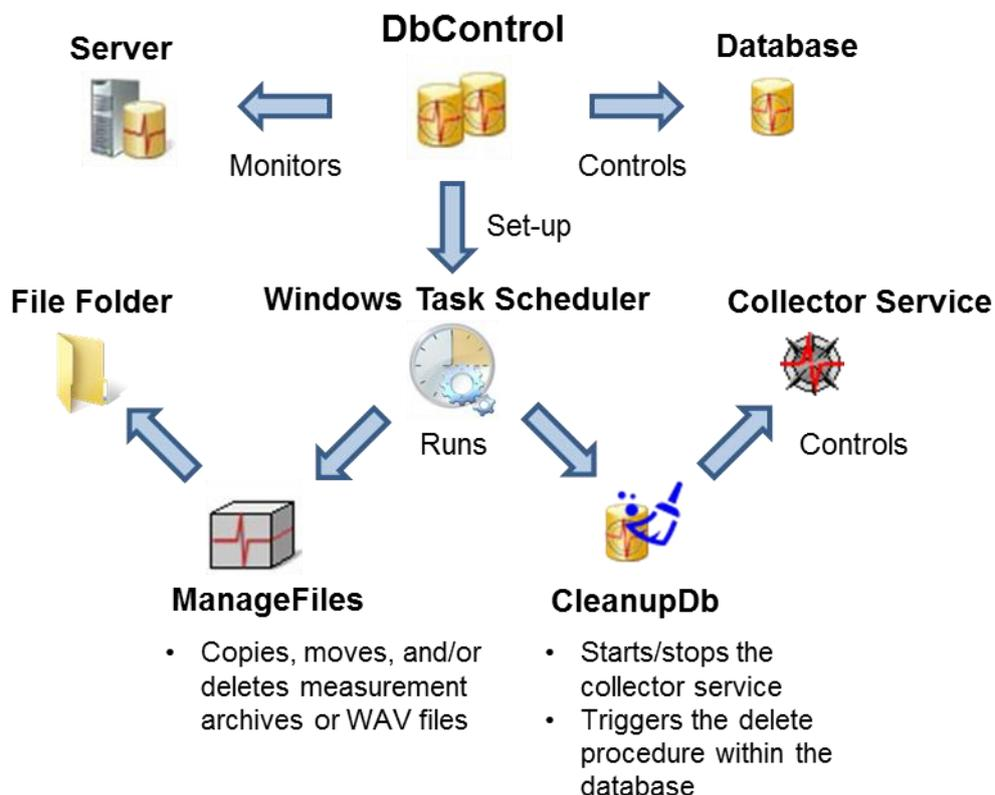
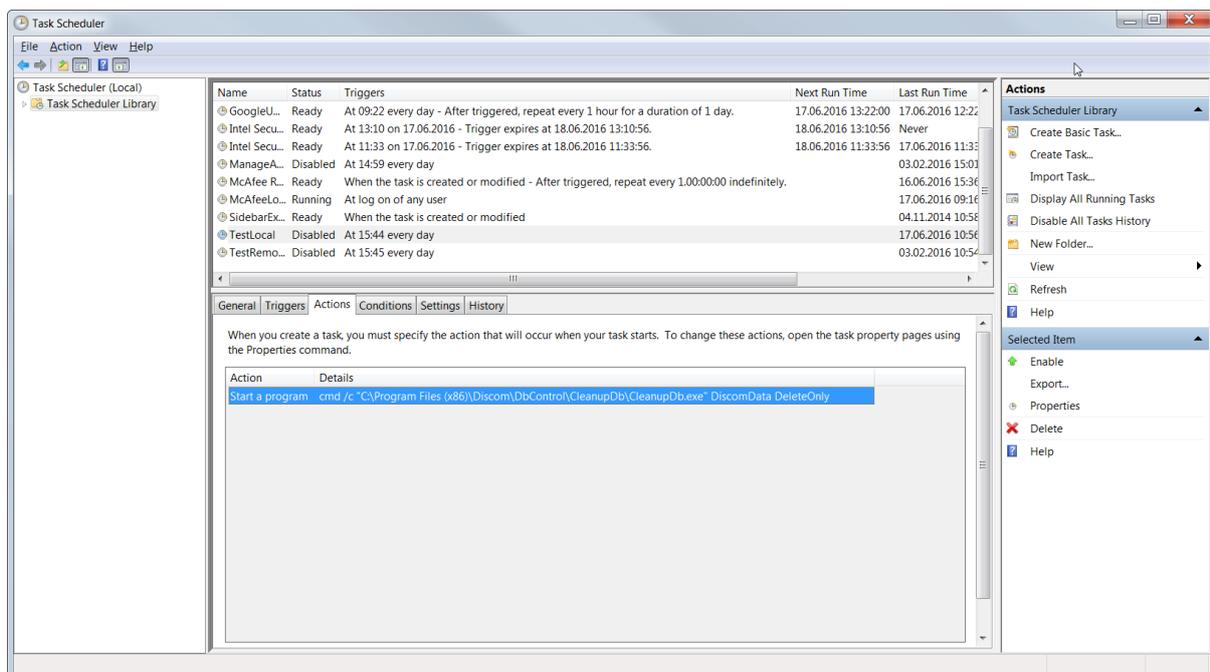

Fig. 39: Schematic program layout. The database cleanup and the management of DISCOM measurement files are carried out using the Windows Task Scheduler.
Fig. 42: CleanupDb task. Additional argument “DeleteOnly” triggers only the delete procedure within the database.
As mentioned in the previous section, the deletion of measurements from the database using the stepwise procedure can be carried out on a regular scheduled using the Windows Task Scheduler. DbControl provides the functionality to set up these Windows Scheduler tasks, not only for the regular database cleanup but also for the management of DISCOM measurement files (Fig. 39).
**Note:** In case the task to be created is a “CleanupDb” task then the triggered run of the background program “CleanupDb” includes three steps (compare Fig. 39): Stopping the collector service, triggering the deletion procedure within the database, and starting the collector service. If the stopping/starting of the collector service should be excluded for some reason (e.g. cluster collector), then either remove the respective collector service entry from the “Lines” tree view or add the argument “DeleteOnly” to the actions of the “CleanupDb” task (see Fig. 42).